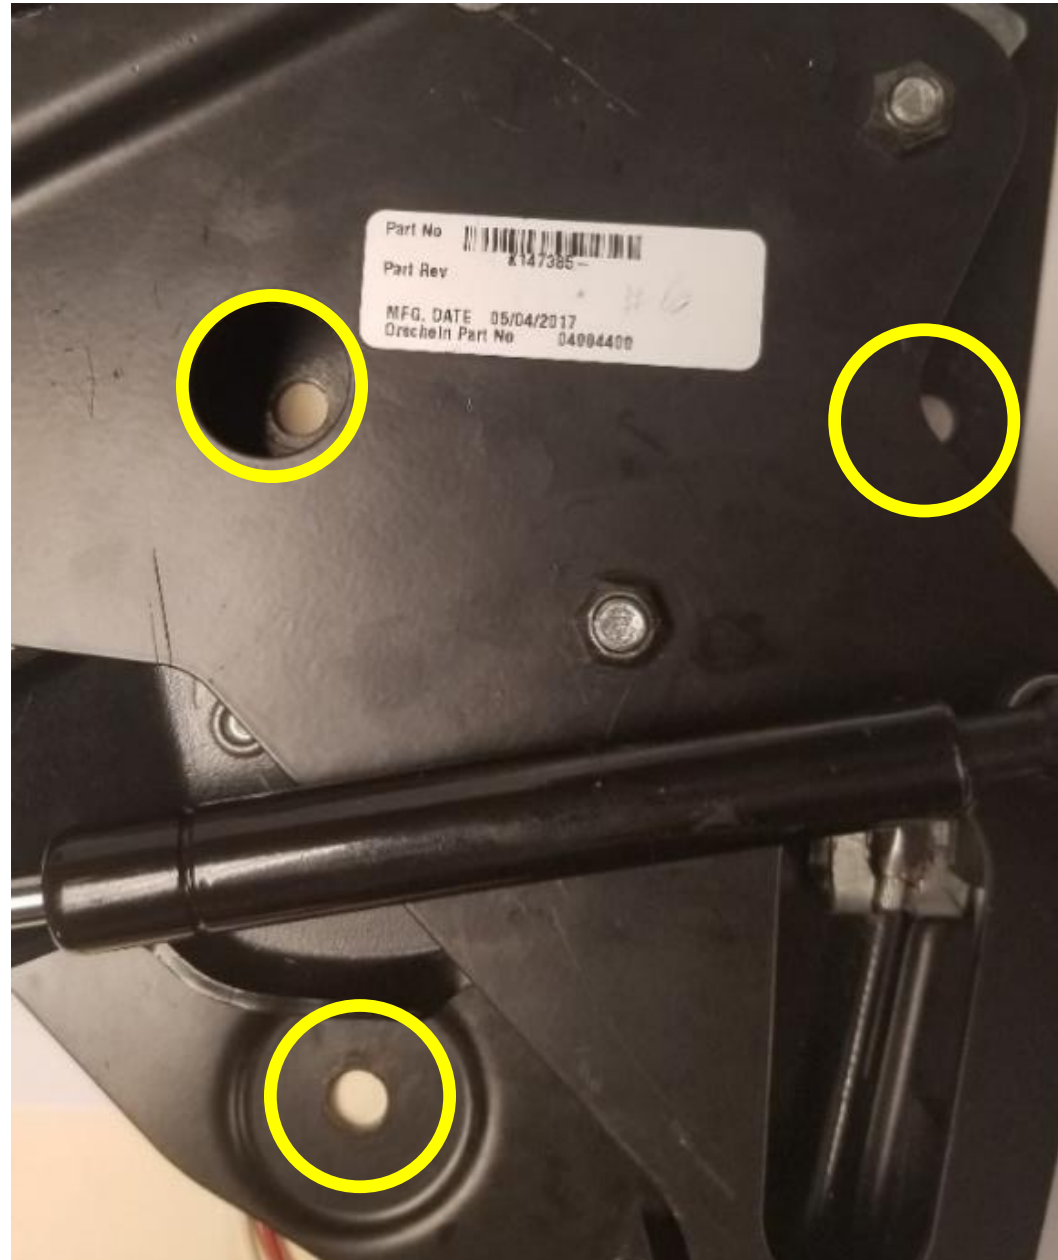

Figure 2 – Parking Brake Assembly (Fastener)
3. Using a ½ inch socket, remove the foot park brake pedal from the side of the DCM by removing and retaining the three fasteners indicated by the circles in Figure 2.